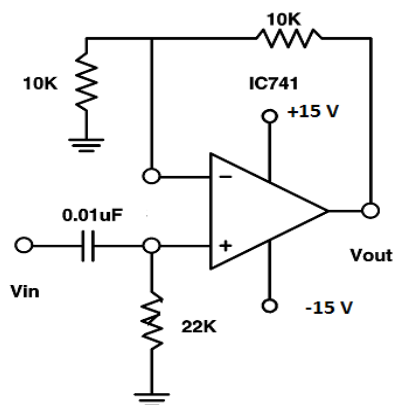

Figure 2
9. Connect the circuit as shown in Figure 2.